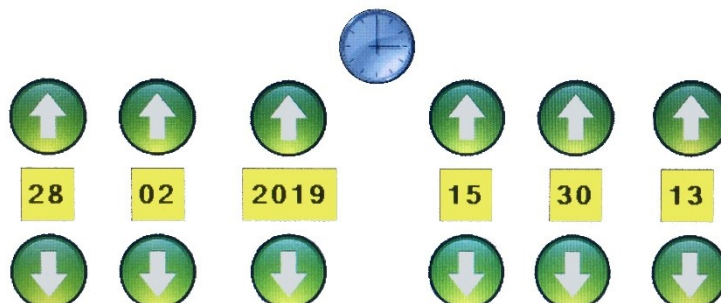

Figure 33
- Date and time is set by pressing  icon and entering the right value (Figure 33).